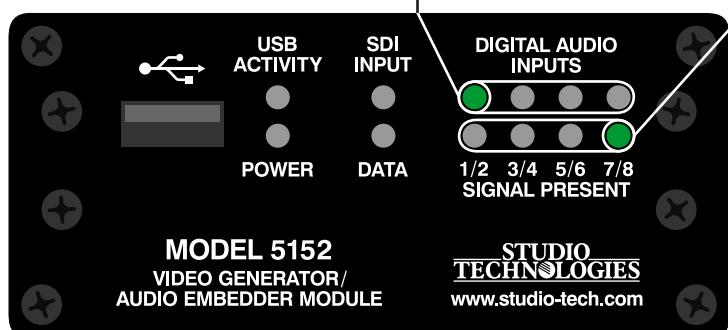

Figure 11. Detail of front panel showing the LEDs that display the MCU and FPGA firmware versions. In this example, the version shown is 1.4.
3. Very shortly after the Power LED lights the USB Activity LED will light to indicate that the MCU firmware version is being displayed by the eight Digital Audio Inputs Signal Present LEDs. The top row of four LEDs will display the major version number with a range of 1-4. The bottom row of four LEDs will display the minor version number with a range of 0 (no LED lit) to 4. Refer to Figure 11 for details.
4. After a few seconds the USB Activity LED will go out and the FPGA firmware version will be displayed by the eight Digital Audio Inputs Signal Present LEDs. The top row of four LEDs will display the major version number with a range of 1-4. The bottom row of four LEDs will display the minor version number with a range of 0 (no LED lit) to 4. Refer to Figure 11 for details.